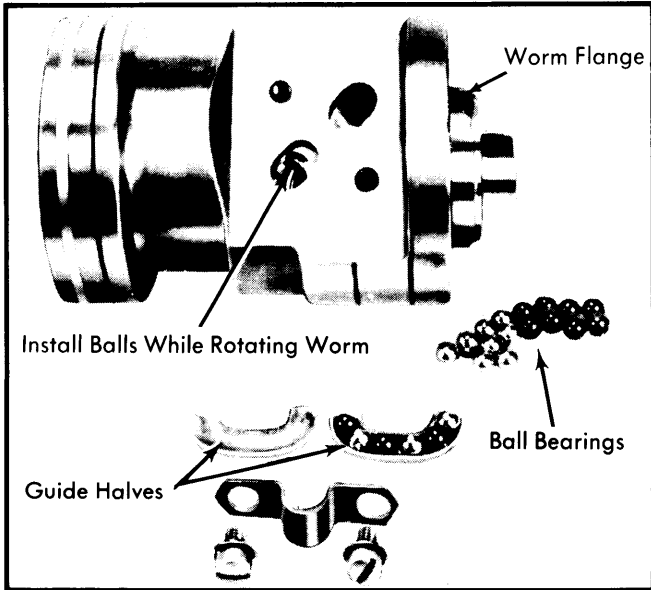

Fig. 6 Installing Ball Bearing into Rack-Piston Assembly
2) Install correct number of balls in ball guide while alternating colors. Hold balls in place with chassis lubricant and install return ball guide assembly into position. Install clamp and tighten attaching bolts. See Fig. 6.